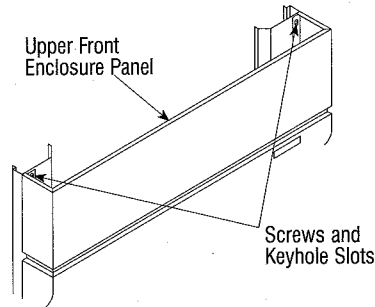

Figure 46
1. Remove upper half of the front enclosure by raising it upward to disengage from the screws at the keyhole slots (See Figure 46).